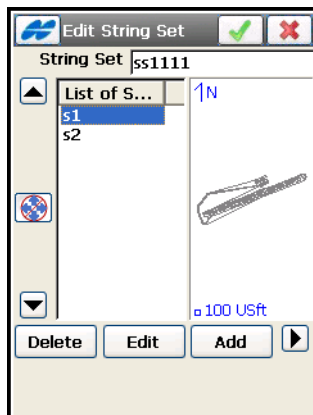

Figure 7-29. Edit String Set
4. On the *Edit String Set* screen (Figure 7-29 on page 7-23), enter the name of the new string set and tap the **Add** button to add a new road string to the set.